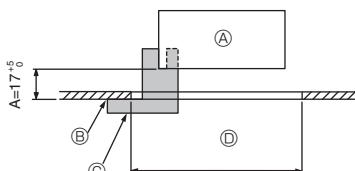

Fig. 9-2
①	Grille	1	950 x 950 (mm)
②	Installation gauge	1	(Divided into 4 parts)
③	Wireless remote controller	1	For PLP-6EALM
④	Remote controller holder	1	Included when equipped with the wireless remote controller.
⑤	LR6 AA batteries	2	Included when equipped with the wireless remote controller.
⑥	3.5 x 16 tapping screws	2	Included when equipped with the wireless remote controller.
9.2. Preparing to attach the grille (Fig. 9-2)
- With the gauge ② supplied with this kit, adjust and check the positioning of the main unit relative to the ceiling surface. If the main unit is not properly positioned relative to the ceiling surface, it may allow air leaks or cause condensation to collect.